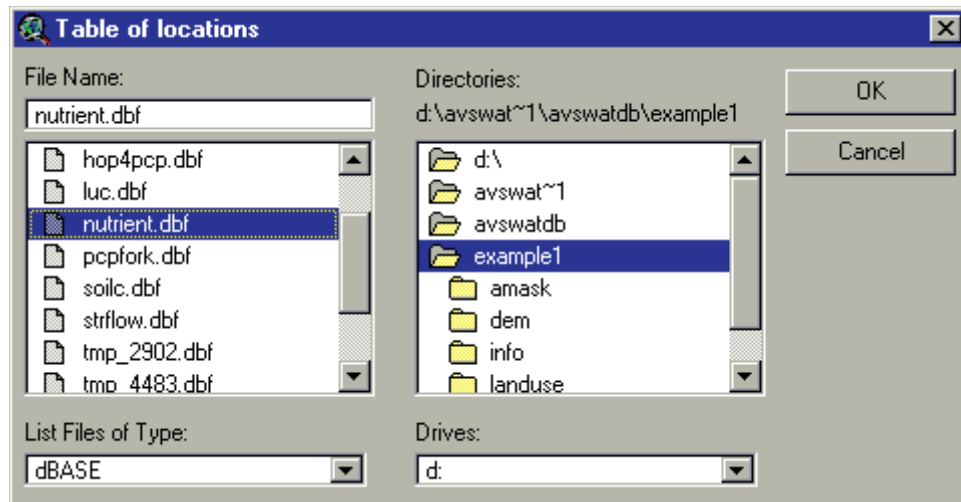

Figure 15.21
- A browser will be displayed (Figure 15.21).